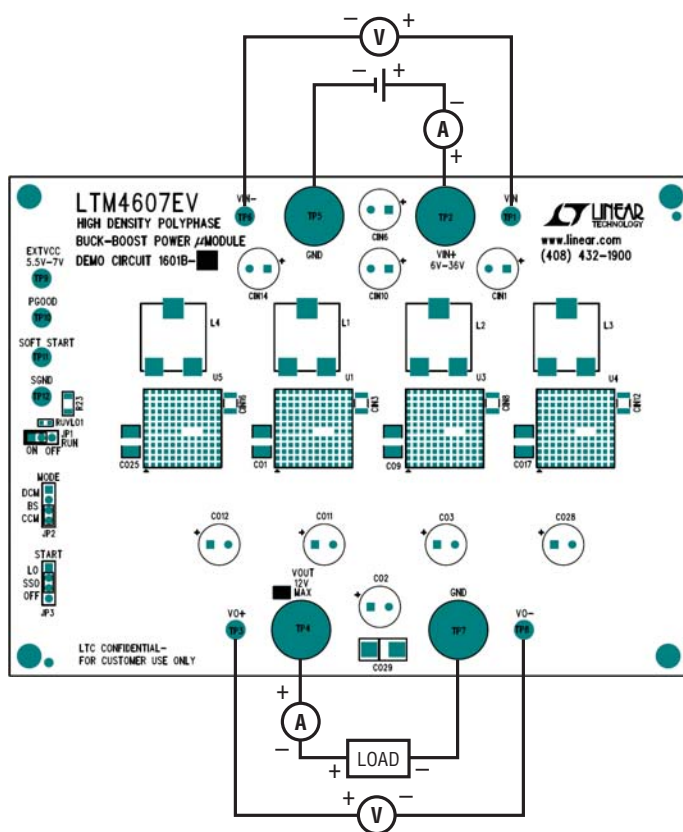

Figure 1
Demonstration circuit DC1601B is easy to set up to evaluate the performance of paralleled LTM4607 modules. Please refer to Figure 1 for proper measurement equipment setup and follow the procedure below:
1. With power off, connect the input power supply, load, and meters as shown in Figure 1. Preset the load to 0A and V_{IN} supply to be 0V. Place jumpers in the following positions for a typical 12V_{OUT} application: